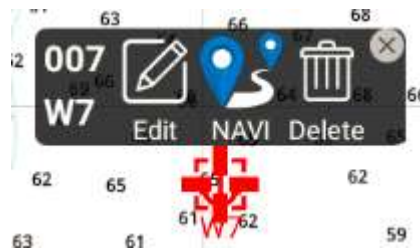

Figure 18 - Waypoint edit page.
- (d) On the chart page, click on the waypoint to be edited to perform **Edit**, **NAVI** or **Delete** operations, as shown in Figure 18.